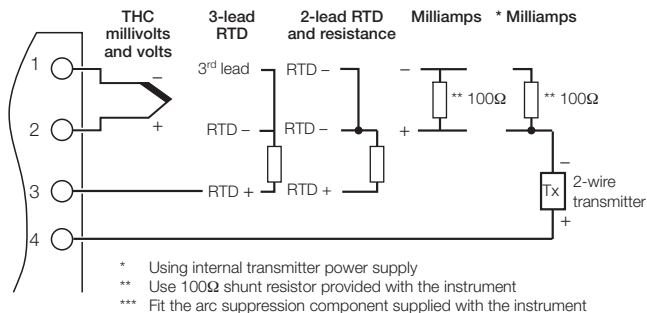

Fig. 5.6 Electrical Connections
5.4 Electrical Connections – Fig. 5.6